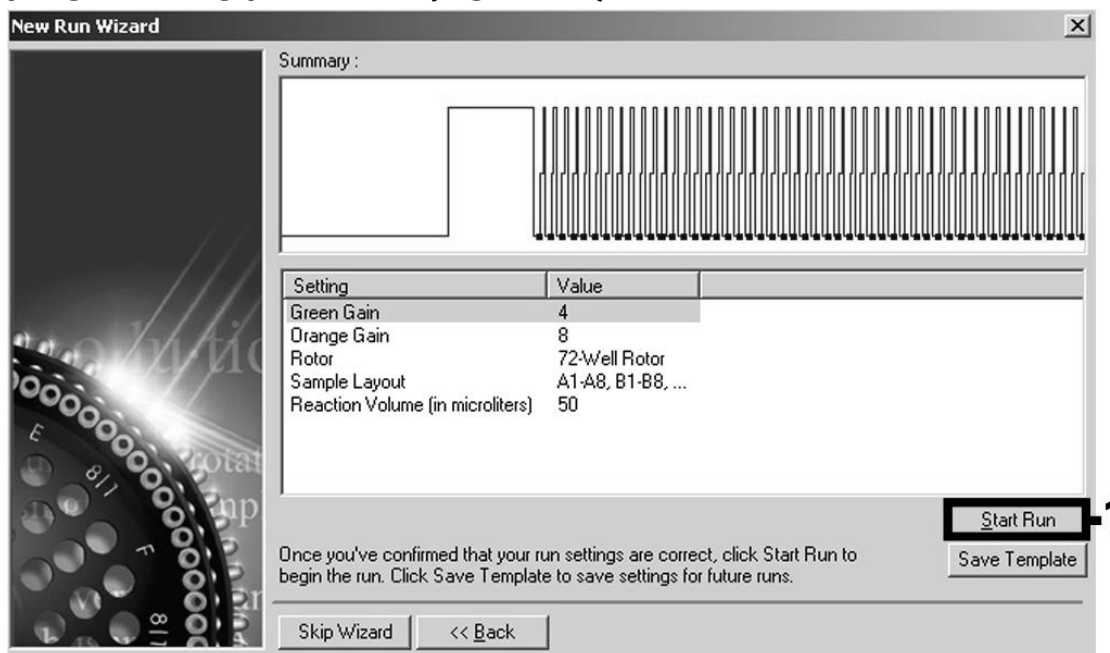

Figure 12. Starting the run. Note that, on the Rotor-Gene 3000, the software will define the fluorescence dyes as “FAM/Sybr” and “ROX”.
Starting the run	Figure 12
10. The gain values determined by the channel calibration are saved automatically and are listed in the last menu window of the programming procedure (Figure 12). Click “Start Run”.